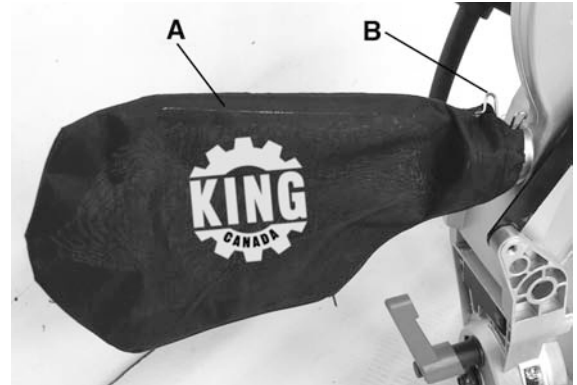

FIGURE 3
1. Pinch the dust bag clamps (B) Fig.3 and then slide dust bag assembly (A) over dust spout on rear of upper guard assembly, as shown.